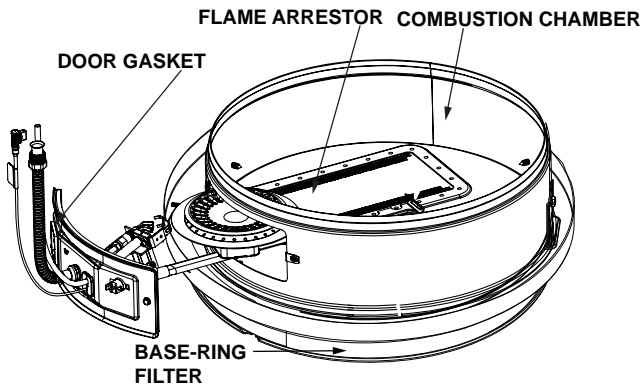

FIGURE 32.
1. At least annually check the base-ring filter (Figure 32) for any dust or debris that may have accumulated on the filter screen. **NOTE:** If the water heater is located in an area that is subjected to lint and dirt, it may be necessary to check the base-ring filter more frequently.
2. Use a vacuum cleaner/shop vac to remove all loose debris in the combustion chamber (Figure 32). Use compressed air to clear any dust or debris that may have accumulated in the flame-arrestor.